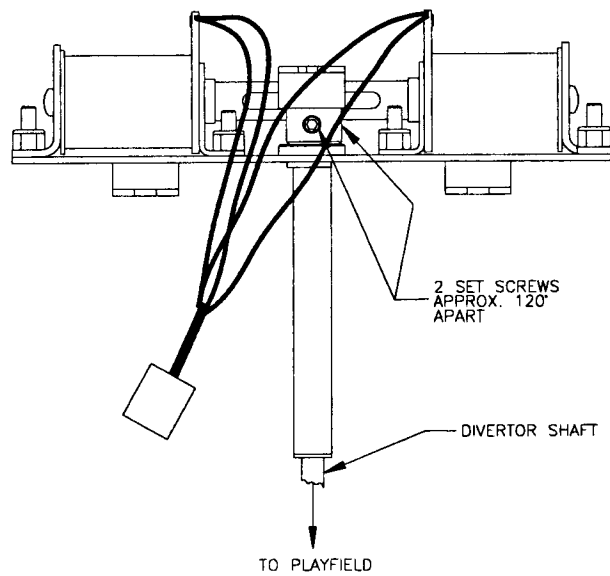

Fig. 11
- c. Unscrew set-screws (2 places) using a 3/32 Hex Allen wrench, until divertor shaft can drop through top of playfield. (See Fig. 11)